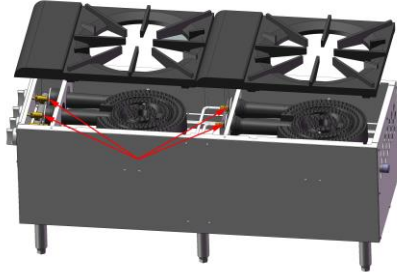

Fig.7
1. Take out the grate on the top. You can see the orifice is in front of the burner. See Fig.7 below.